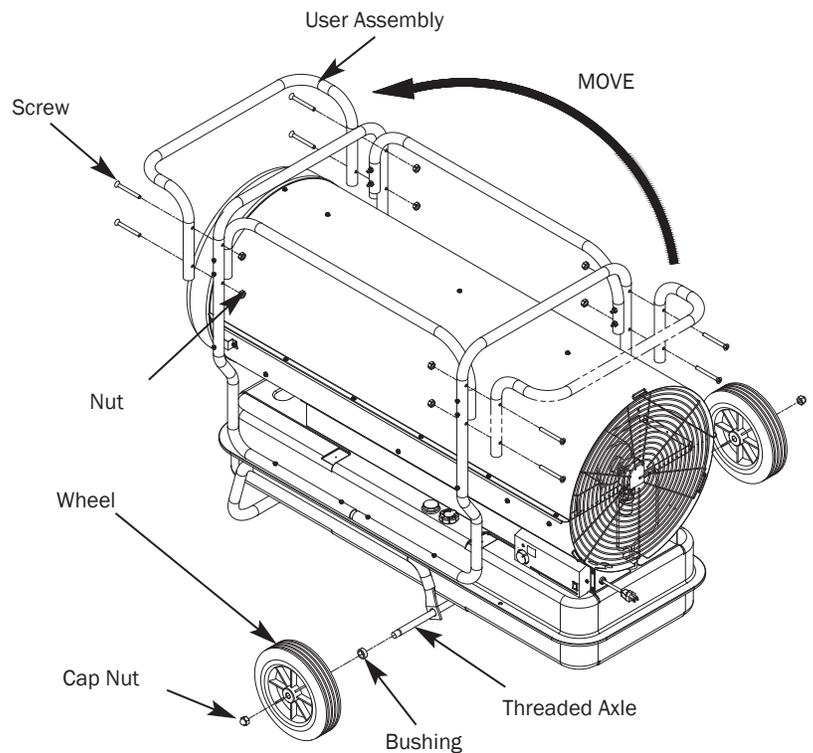

Figure 8– Wheel and Handle Assembly
4. Move the removed handle front to the handle on the front side as Figure 8, and then tighten 4 screws after matching handle and handle front.